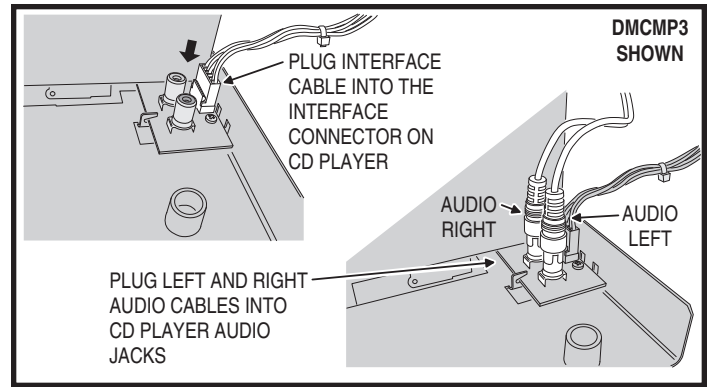

Figure 24. CD/MP3 Player Interface and Audio Cable Connection
9. Insert the CD Player interface cable into the INTERFACE connector on the CD Player (see Figure 24).
10. Insert the CD audio cable's BLACK RCA plug into the AUDIO LEFT jack on the CD Player, then insert the cable's RED RCA plug into the AUDIO RIGHT jack on the CD Player (see Figure 24).